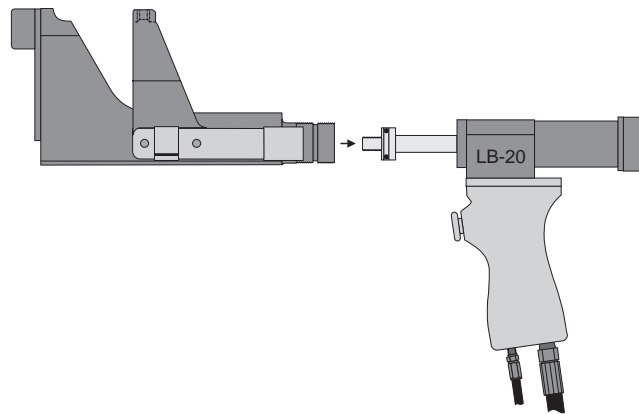

Figure 11
1. Pull the LBOA slide assembly back, thread in the mandrel and return the slide assembly to its forward position. (Figure 11)
2. Thread LB piston rod fully into LBOA slide assembly then thread LBOA housing into LB housing (Figure 11). Ensure O-Ring on LBOA housing is seated at the LB housing.
6. Thread LB piston rod into LBOA slide assembly then thread LBOA housing into LB housing. (Figure 11)